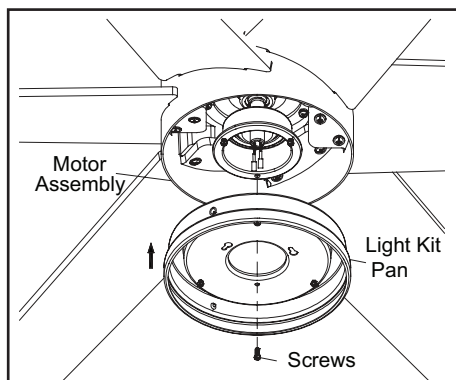

Figure 15
1. Loosen but do not remove two of three mounting screws from the fan motor assembly; Remove one mounting screw. (Figure 15)
2. Push the light kit pan up to the fan motor assembly so that the two loosened screw heads fit into the keyhole slots. Turn the light kit pan clockwise, tightening the screws. Re-install the screw that was removed in step 1 and tighten firmly. (Figure 15)